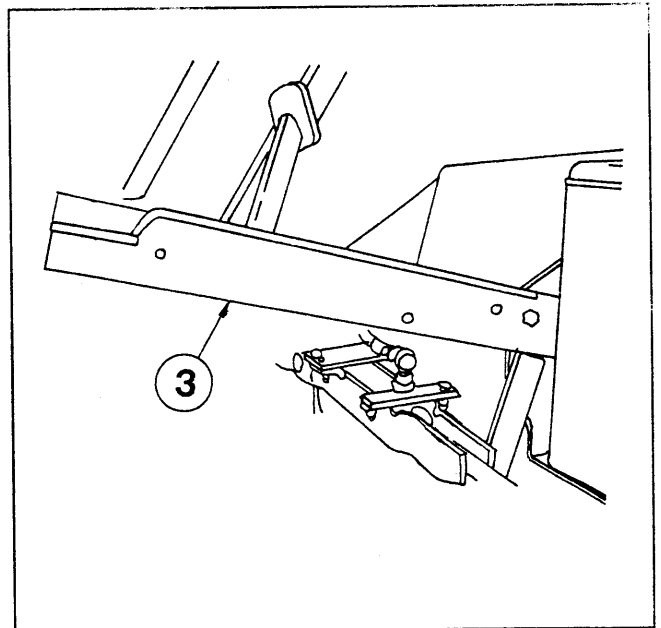

Figure 2
6. Take the left front bracket (3) and position it against the two-hole bolt pattern in step 5, with the ROPS mounting plate towards the front and outside. Loosely bolt the bracket to the chassis using the 12x40x1.75mm hex bolts supplied, and factory lock nuts removed in step 5 (see Figure 2).
7. Locate the hole near the front of the left front bracket (3). Using the hole as a guide, drill a $\frac{7}{16}$ " dia. hole through the front platform (see Figure 2).